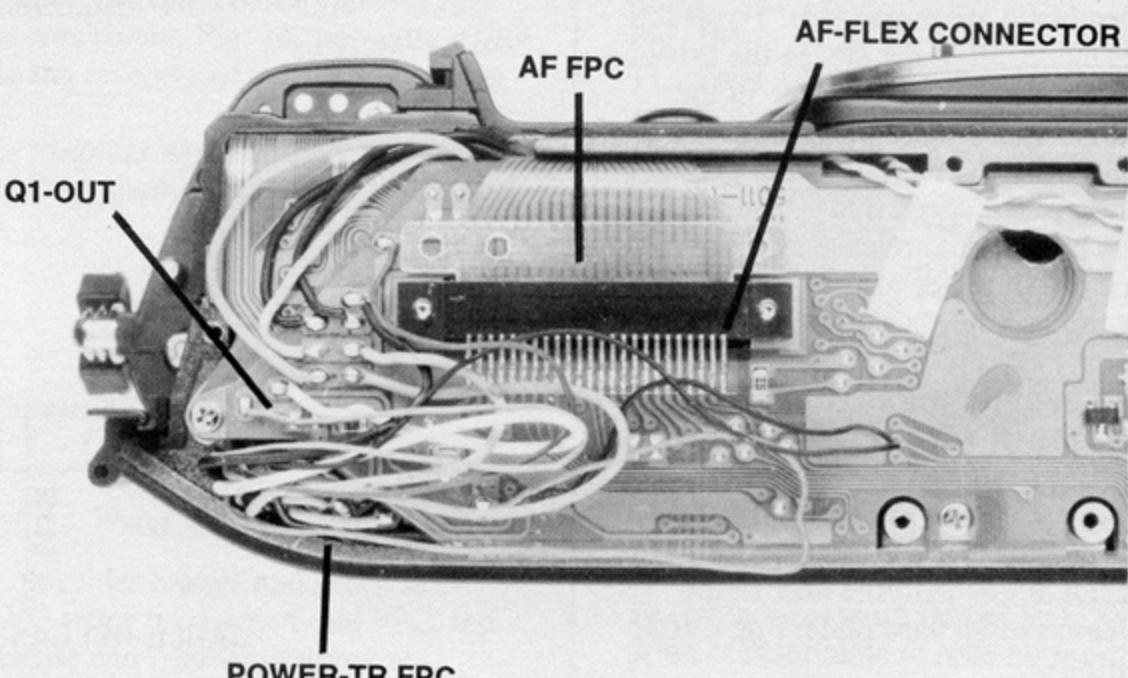

FIG. 9 BOTTOM VIEW, RELEASE END
17. disconnect edge connector for AF FPC, bottom of camera, Fig. 9 (slide the connector of the AF FPC toward the front of the camera)